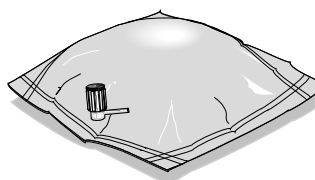

Figure 2. Bag Inflation
1. Turn on the pump and monitor bag inflation through the window in the chamber's lid. Run the pump until the bag is approximately 80% full. **Do not overinflate the bag** (*Figure 2*).
2. Turn on the pump and record the start time. Sample for the time specified in the analytical method. **Do not overinflate the bag** (*Figure 2*).
Use the window in the lid of the chamber to monitor bag inflation. Do not fill the bag more than 80% of its maximum volume (*Figure 2*).